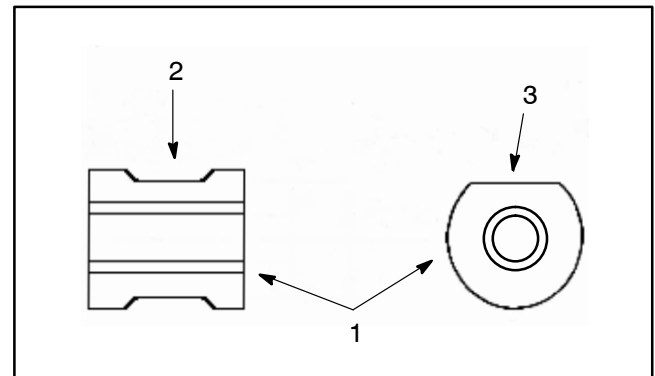

Figure 12
3. Check the rollers. If binding or uneven wear is found, replace all rollers as a set (Fig. 12).